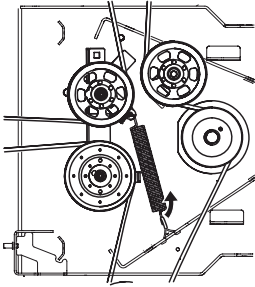

Figure 46
- b. Remove the idler spring from the wireframe spring hook on the right side of the center of the deck (Figure 46).